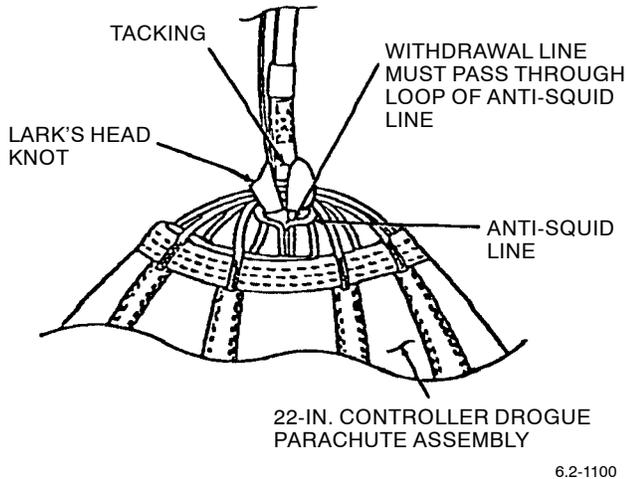

Figure 4. Proper Attachment of Lark's Head Knot
d. Ensure that all apex suspension lines and anti-squid line are encircled by withdrawal line with a Lark's head knot and tacking is properly attached and secured (Figure 4). (QA)